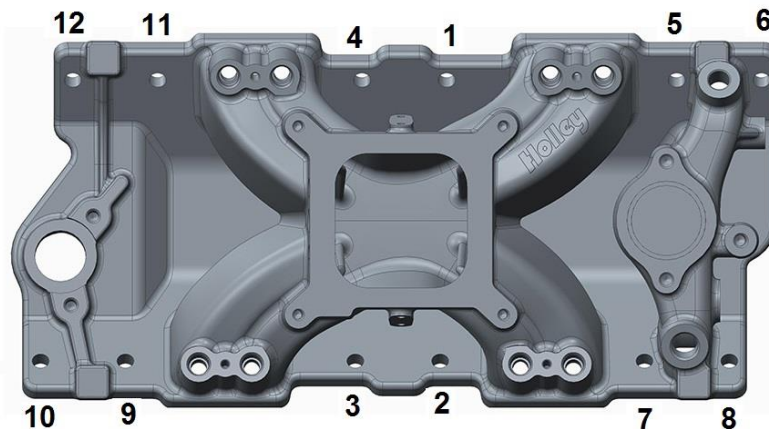

Figure 1
5. Carefully, lay your HOLLEY® intake manifold in place. If the manifold must be moved, the RTV-silicone may need to be cleaned and re-applied. For the bolts to be installed in bolt holes that are drilled through, apply a dab of thread sealer on the threads. For the blind bolt holes, apply a drop of motor oil to the bolt threads. Install the intake bolts initially torquing to 10 ft./lbs., then 15 ft./lbs., following the factory GM sequence (**Figure 1**), and finally torque to 25 ft./lbs.